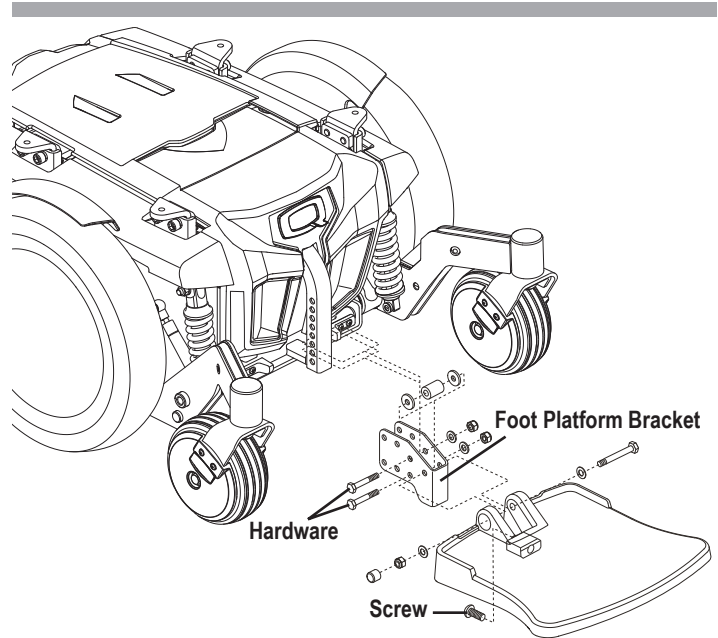

Figure 15. Foot Platform Adjustment
See figure 15.
1. Flip up the foot platform and locate the screw. **See figure 15.**